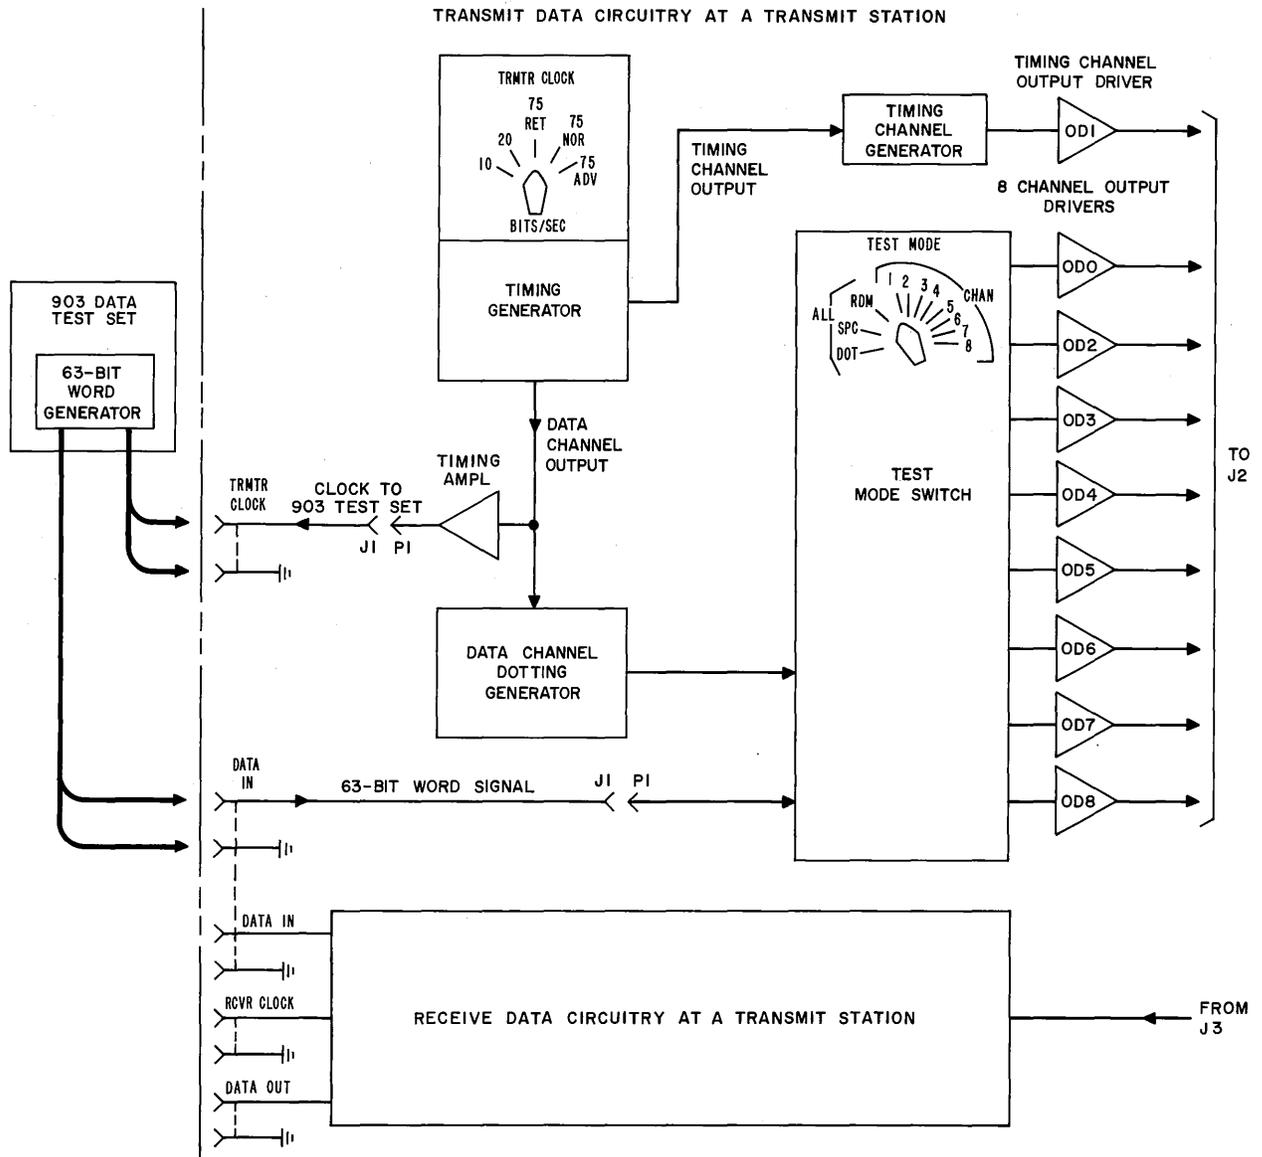

Fig. 5—Functional Block Diagram of the Transmit Data Circuitry of the 913A Data Test Set
3.02 Transmitter: The transmit data circuitry contains a timing generator, timing channel generator, timing amplifier, data channel dotting generator, TEST MODE switch, and channel output drivers (Fig. 5).